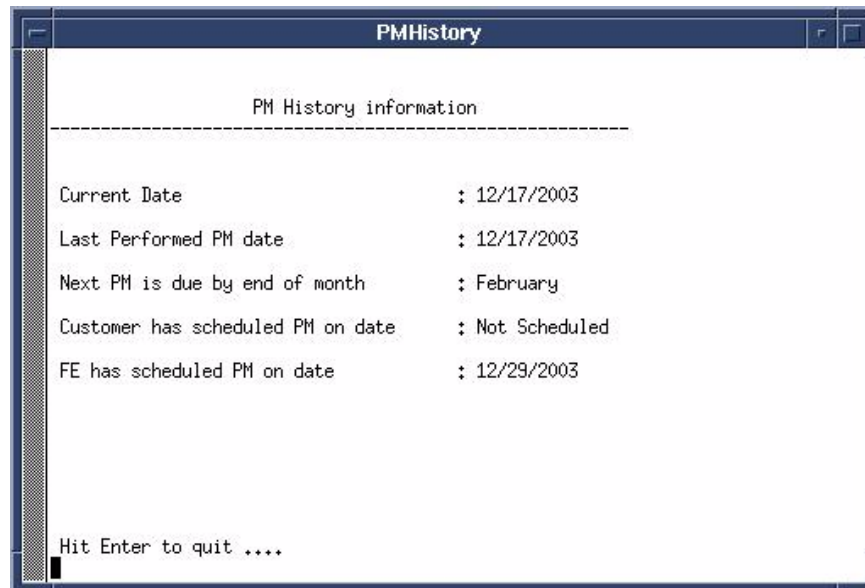

Figure 39
3. The PM History (shown in Figure 39) displays the following information: